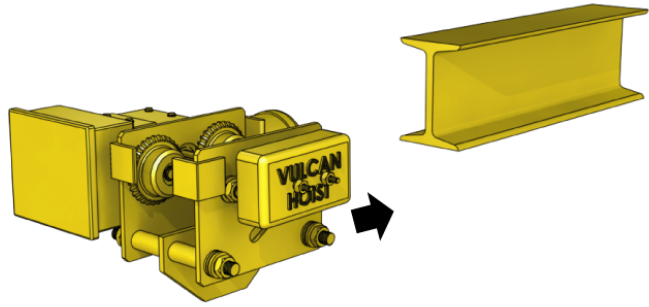

fig. 1
- A. Remove stopper at one end of the beam and push the trolley on the beam (p.8, FIG.1)